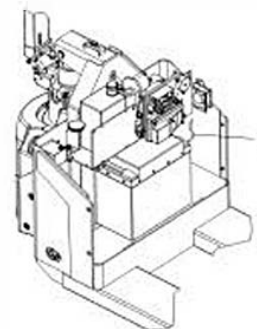

Fig.14
- (Fig.14) Remove the lithium battery connecting line 6. Pay attention to the positive and negative poles to avoid battery short circuit;